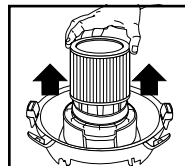

FIGURE 16
23. Slide the cartridge filter off the lid cage. **FIGURE 16.**